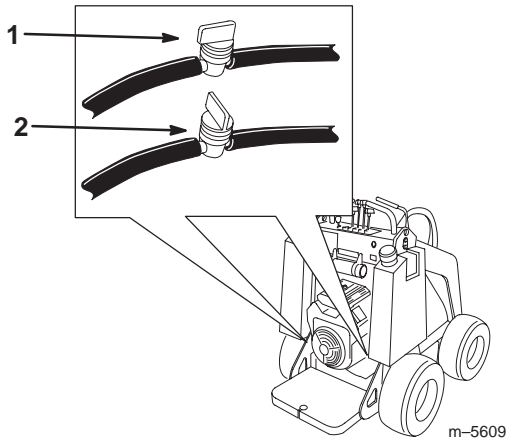

Figure 30
- Shut off the fuel valve on the bottom of each fuel tank (Fig. 30).
3. Shut off the fuel valve in the hose near the bottom of each fuel tank as illustrated in Figure 30.
8. Open the fuel valve in the hose near the bottom of each fuel tank as illustrated in Figure 30.